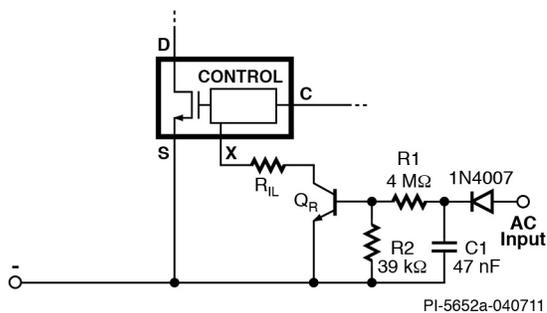

Figure 3 – Fast AC Reset Circuit.
The TOPSwitch-JX family has a fast AC reset function which can be configured on the EXTERNAL CURRENT LIMIT (X) pin (as shown in Figure 3). Should the device stop switching due to a latching OVP fault condition, the circuit connected to the X pin will force  $I_X$  to exceed  $I_{X(TH)} = -27 \mu\text{A}$  (typical) and reset the latch when the AC input is disconnected or falls below a set threshold value.
In Figure 3, R1, R2 and C1 set the time after AC is removed before the latch is reset. A higher gain BJT  $Q_R$  is desirable to allow a higher resistance value for R1 and lower capacitance value for C1, and thus minimize the circuit dissipation.